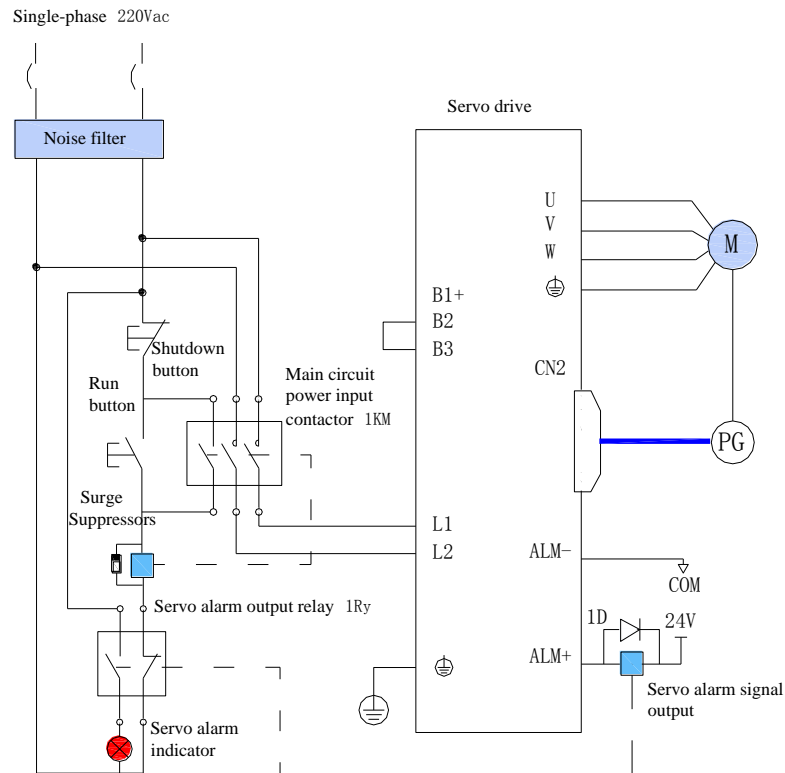
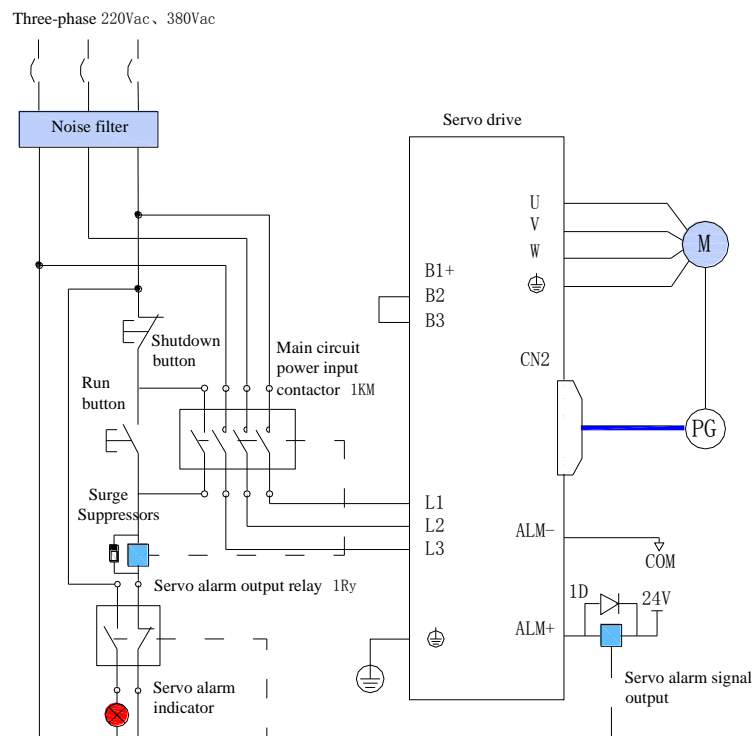

Figure 4-4 Single-phase 220V main circuit wiring
Figure 4-5 Wiring of three-phase 220V and 380V main circuit
- Please refer to Figure 4-4 and Figure 4-5 to connect the power supply of the main circuit. DO is set to the alarm output